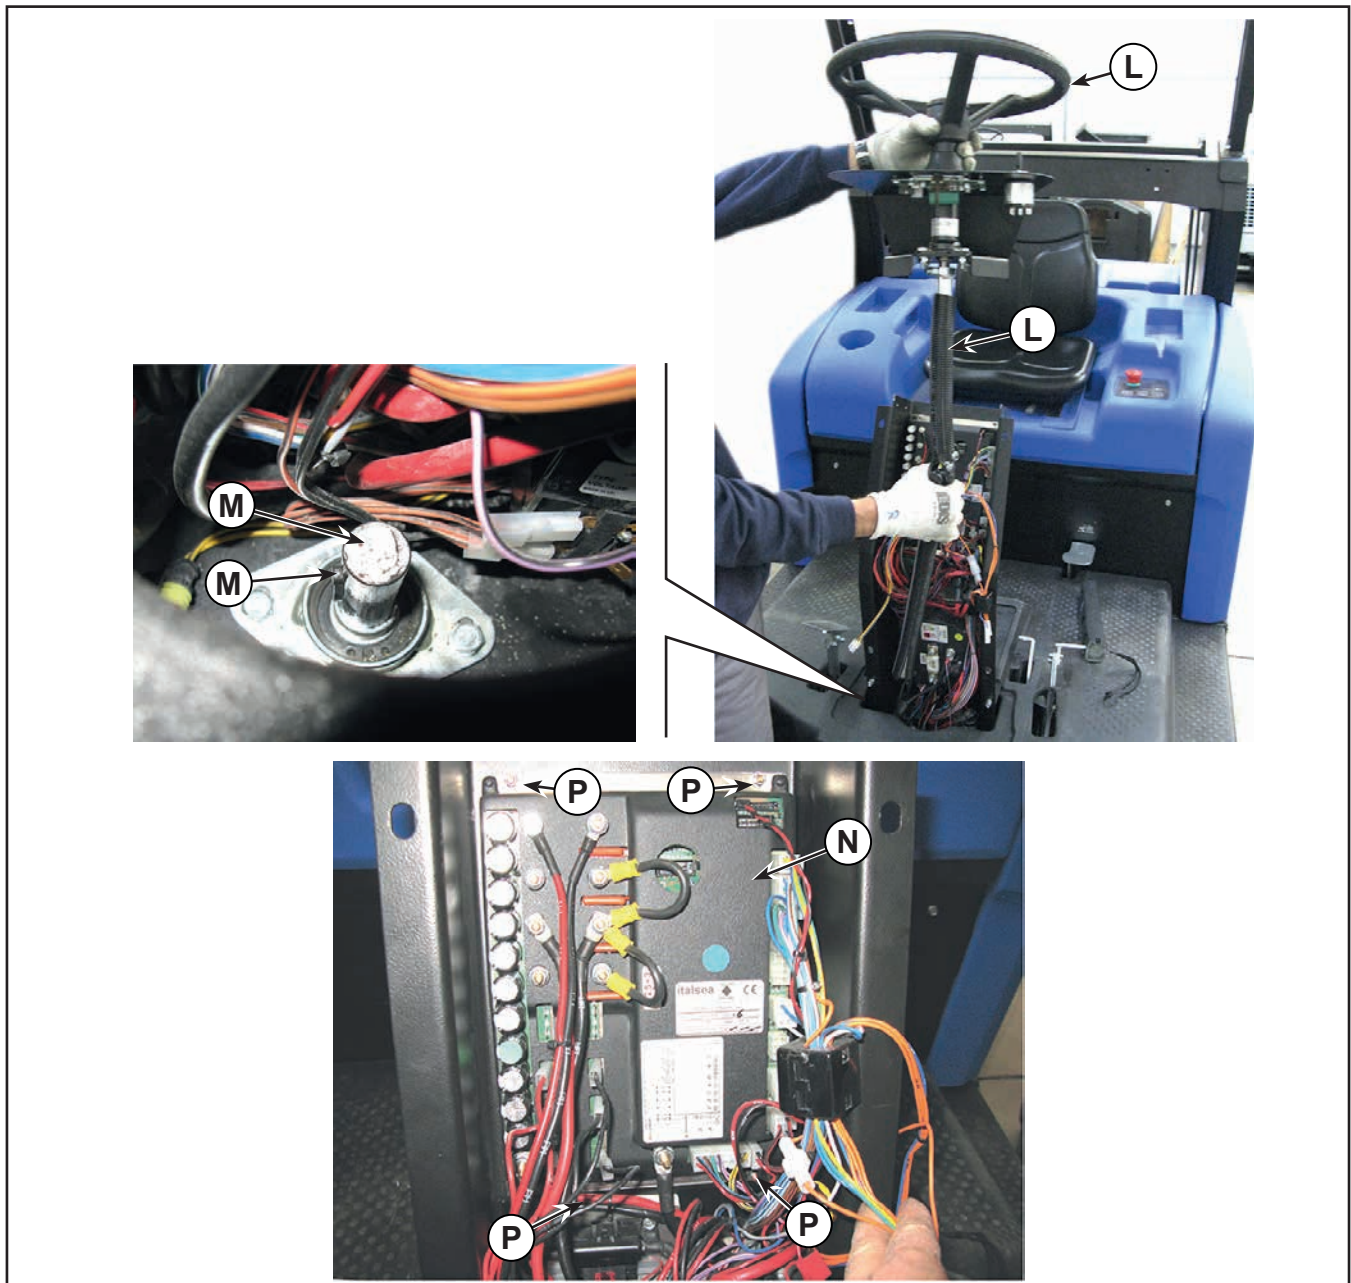

Figure 12
12. Remove the steering wheel with steering shafts assembly (L, Figure 12), gripping it as shown in the figure, and disengaging it from the shaft with key (M).
13. Disconnect all the electrical connections from the Main Machine Controller (N) after marking their various positions.
14. Unscrew the four nuts (P) and remove the Main Machine Controller (N).